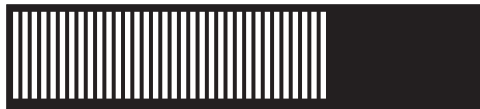

Figure 79. Hardware boot display
- Is the hardware boot display that you see in Figure 79 displayed on any of the SAN Volume Controllers?**
Has the hardware boot display that you see in Figure 79 displayed for more than three minutes?